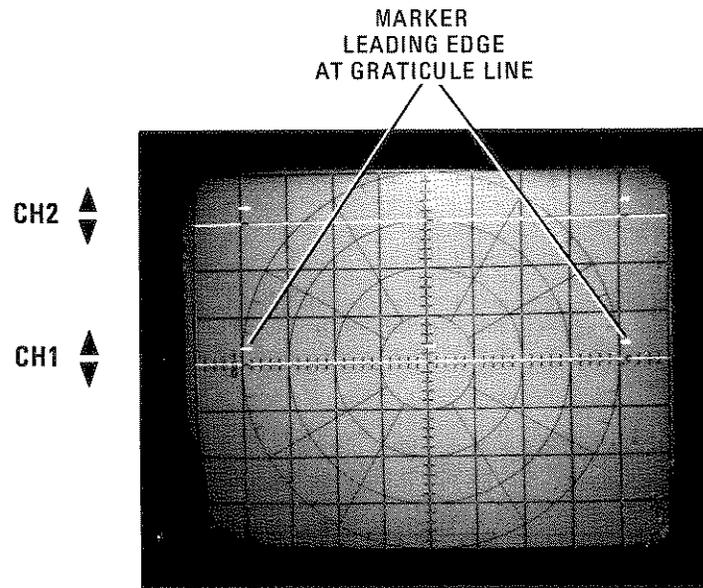

Figure 3-26. Positioning of Traces
- m. On the 8754A, press CHANNEL 2 B/R. Then press the REFERENCE POSITION CH 2 pushbutton and use the CH 1 \blacklozenge and CH 2 \blacklozenge controls to move the traces to the positions shown in Figure 3-26 (i.e., channel 1 on the center graticule line, channel 2 on the third graticule line above the center graticule line).
- n. On the 8750A, press CH 1, then INPUT, then CH 2, then INPUT again. With the Interface Board VERT IN OFF (Vertical Input Offset) control, place the channel 1 trace on the center graticule line. With the Interface Board VERT IN GAIN (Vertical Input Gain) control, place the channel 2 trace on the third graticule line above the center graticule line (see Figure 3-26). Repeat this procedure as often as necessary to get the channel 1 and channel 2 traces on the center and third graticule lines respectively.